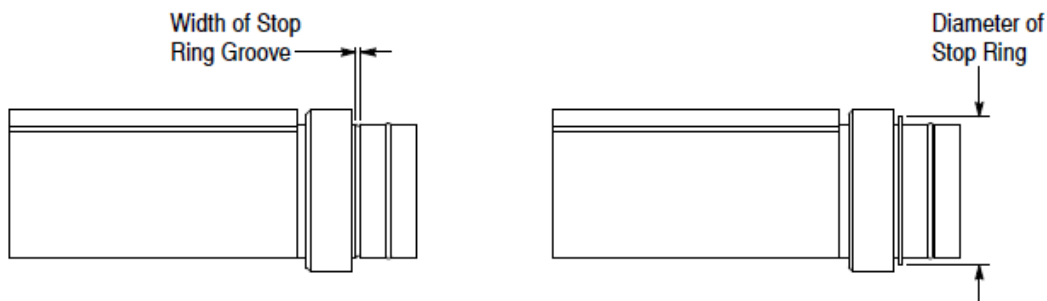

Figure 10
- Using a caliper, measure the width of the stop ring groove (see Figure 10). Using this dimension, refer to Figure 8 for the proper stop ring to be used.
- Using a caliper, measure the diameter of the stop ring (see Figure 10). Take measurements at several different locations around the ring.